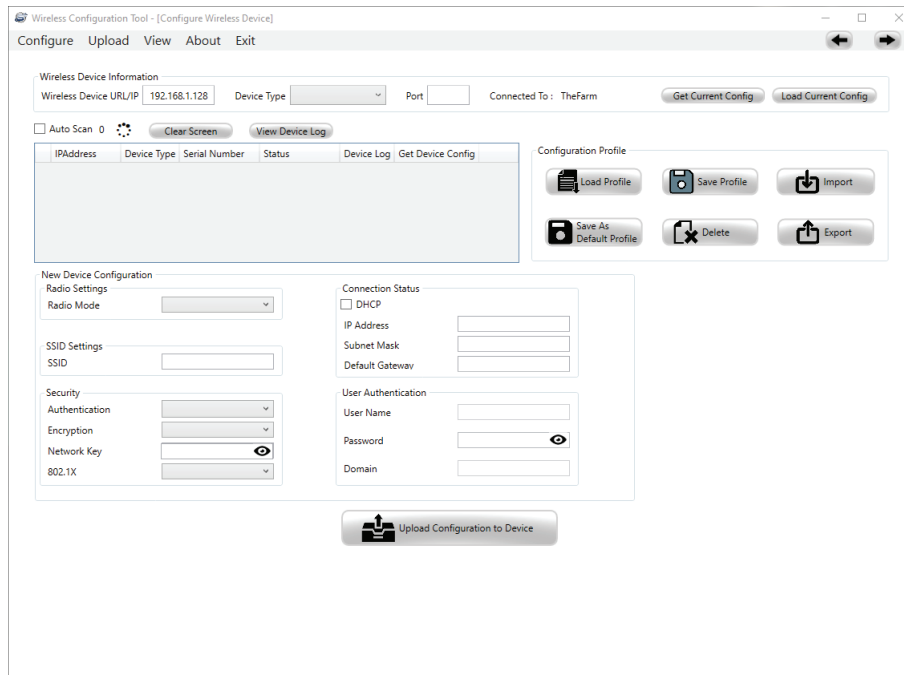

Figure 59 – Wireless Device URL
7. Enter the product IP address in the **Wireless Device URL/IP** box (Figure 59).